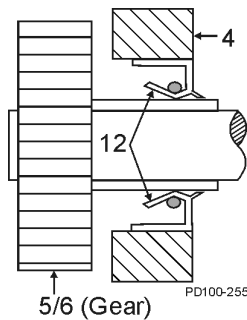

Figure 64 - Orientation of Oil Seal
2. Press the new oil seal (Figure 64, item 12) into the gear case cover (item 4) flush with the outside face, with the spring facing in.